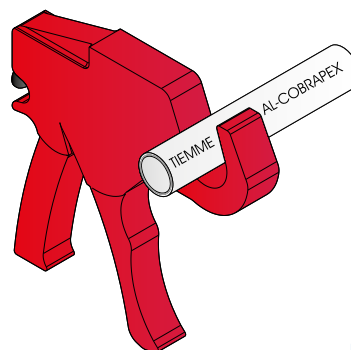

FIG. 1
- Cut the tube to the desired size by using a pipe-cutter, making sure that the cut is perpendicular to tube axis (FIG. 1)